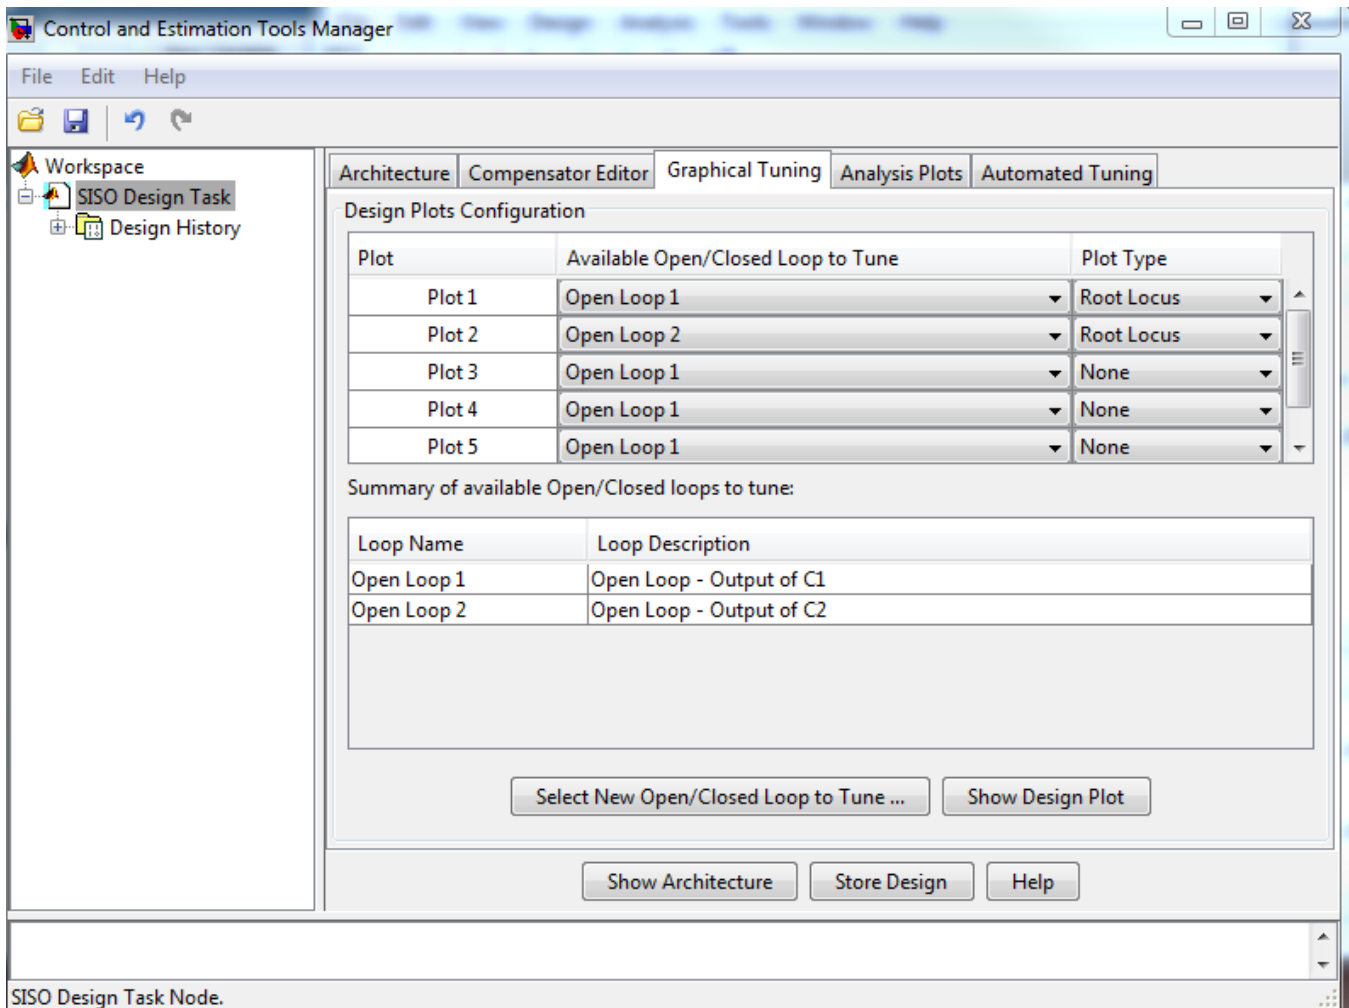

Figure 20. The sisotool View window. We want to see the root locus plots for both Open Loop 1 and Open Loop 2.
*Next, go back to the design window, and select **View**, then **Design Plots Configuration**. The choose to plot the **Root Locus** plot for both **Open Loop 1** and **Open Loop 2**, as shown in Figure 20. You should have a design window with two (empty) root locus plots. Now we are ready to start a design.*